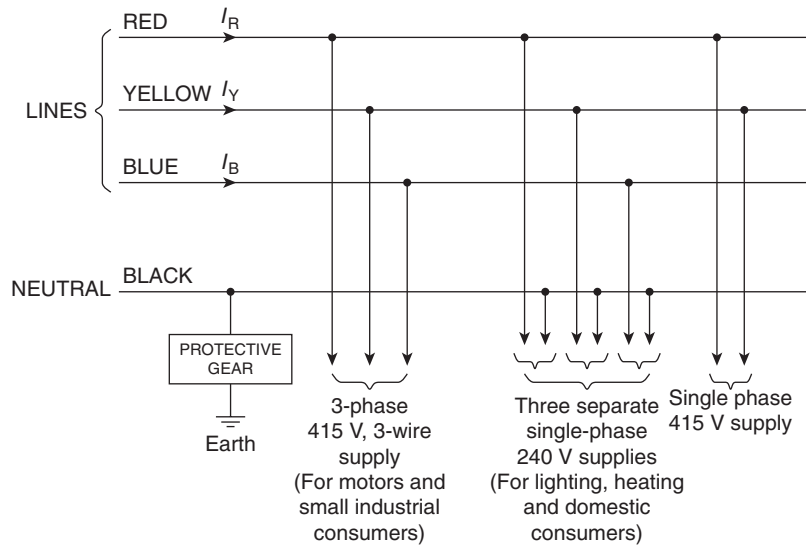

Figure 20.5
are fed by means of a single-phase a.c. supply. Two wires are used, one called the live conductor (usually coloured red) and the other is called the neutral conductor (usually coloured black). The neutral is usually connected via protective gear to earth, the earth wire being coloured green. The standard voltage for a single-phase a.c. supply is 240 V. The majority of single-phase supplies are obtained by connection to a three-phase supply (see Fig. 20.5, page 313).
- (vii) The star connection of the three phases of a supply, together with a neutral conductor, allows the use of two voltages — the phase voltage and the line voltage. A 4-wire system is also used when the load is not balanced. The standard electricity supply to consumers in Great Britain is 415/240 V, 50 Hz, 3-phase, 4-wire alternating current, and a diagram of connections is shown in Fig. 20.5